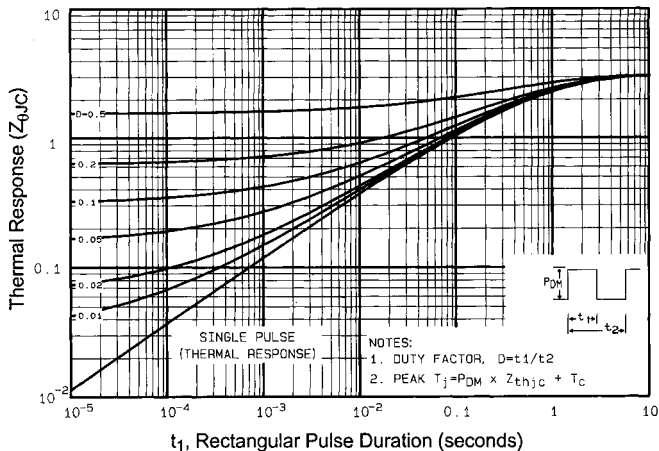

Fig 11. Maximum Effective Transient Thermal Impedance, Junction-to-Case
- ① Repetitive rating; pulse width limited by max. junction temperature (See Figure 11)
- ② $V_{DD}=-50V$, starting $T_J=25^\circ\text{C}$, $L=26mH$